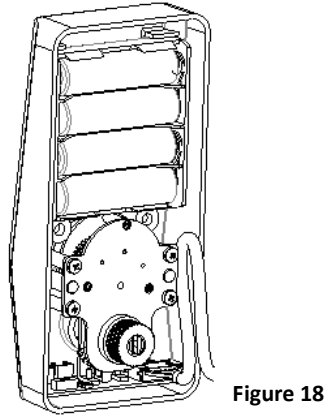

Figure 18
2. Tuck the connecting wire as shown in **Figure 18**.